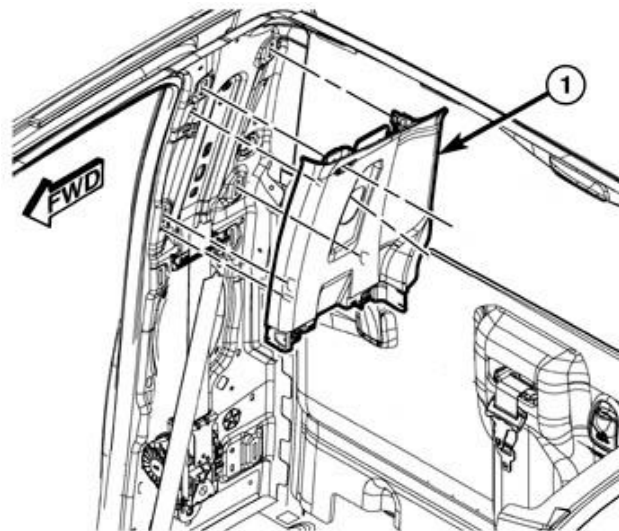

Figure 6 – B-Pillar Upper Trim Panel
8. Release the retaining clips and remove the B-pillar upper trim panel (1) (Figure 6).
46. Install the B-pillar upper trim panel (1) and engage the retaining clips fully (Figure 6).